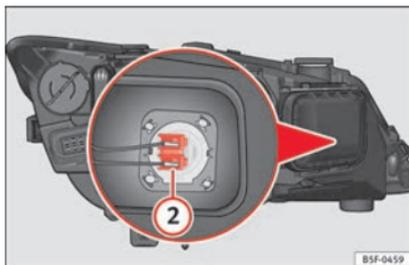

Fig. 211 Main beam headlight bulb.
- Slide connector » Fig. 211 ② to the left or right and pull.